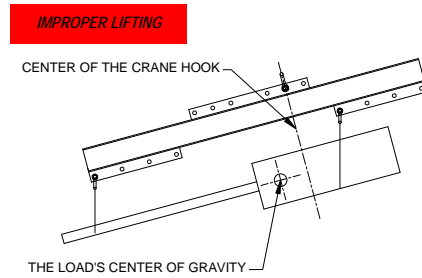

Figure 2
6. See Figure 2, the Lifting Beam is not level/horizontal, improper lifting position.